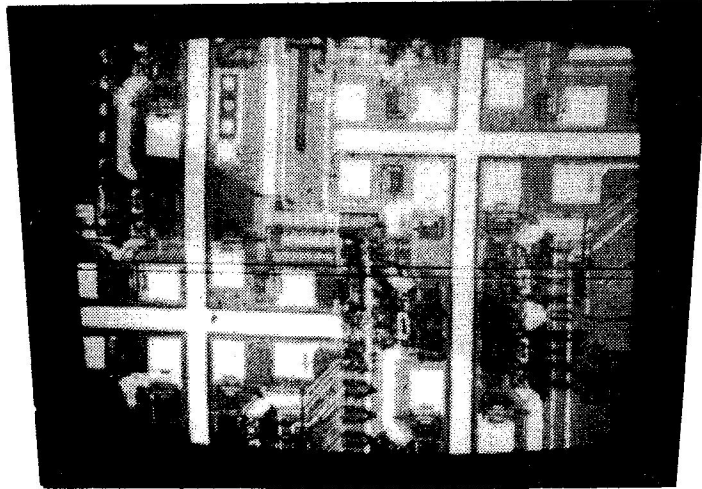

Figure 4-7A. Wafer as Placed on Chuck
- 6) Use the FWD, BACK, CW and CCW controls to align the wafer to the reticle. Figures 4-7A through 4-7D show a wafer in and out of alignment. When aligned the street should appear continuous across the TV screen and centered over the reticle.